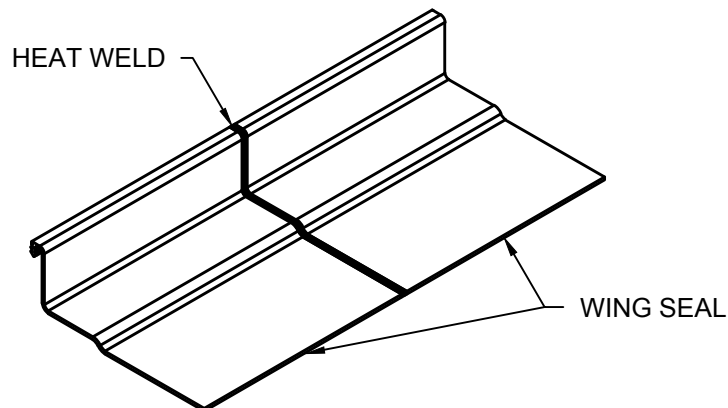

FIGURE 3.2
- 3.5) In order to splice Wing Seal, butt two sections together and heat weld at the seam with a hot knife or other capable device. (See Figure 3.2)